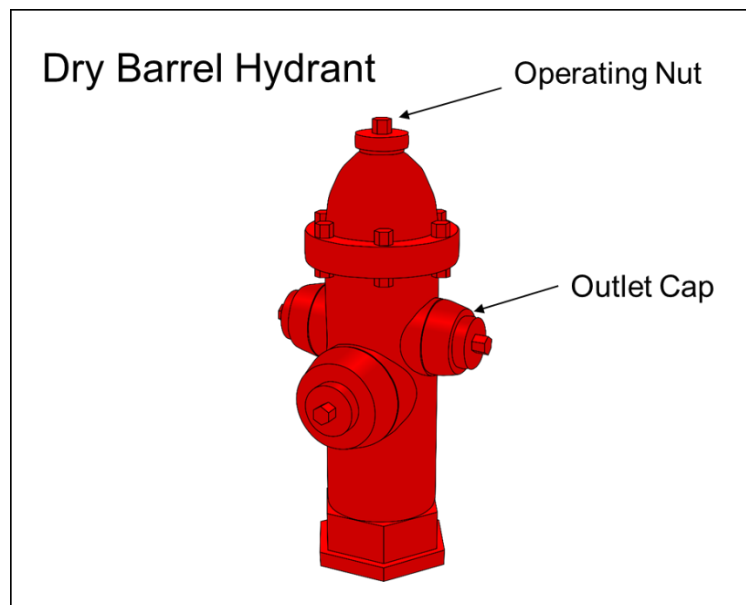
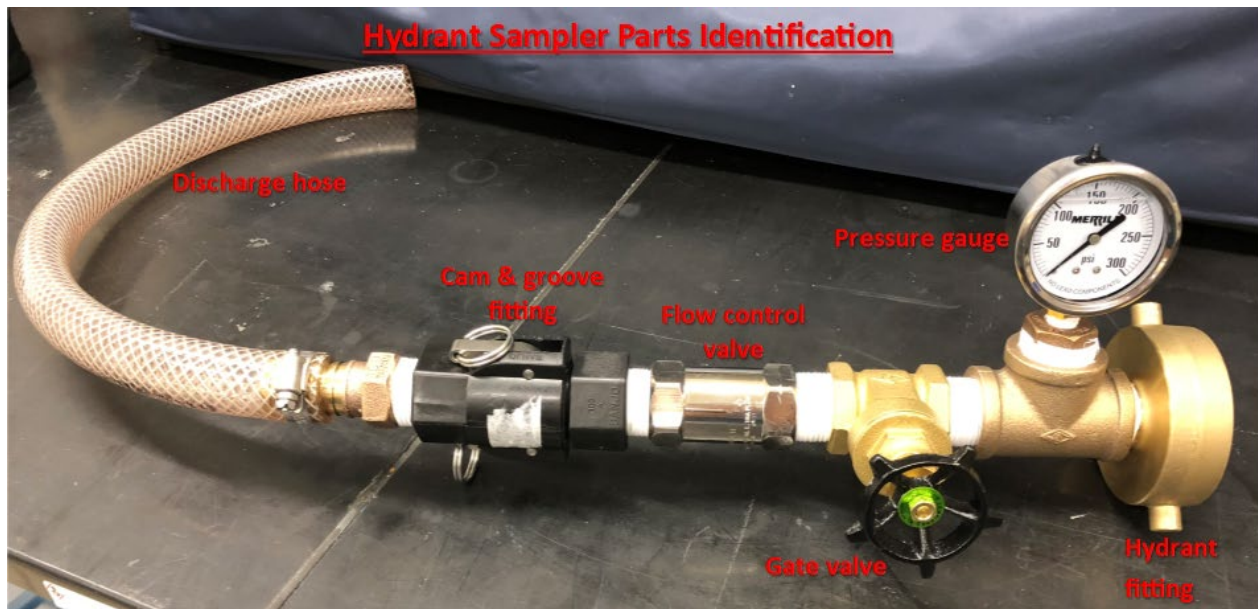
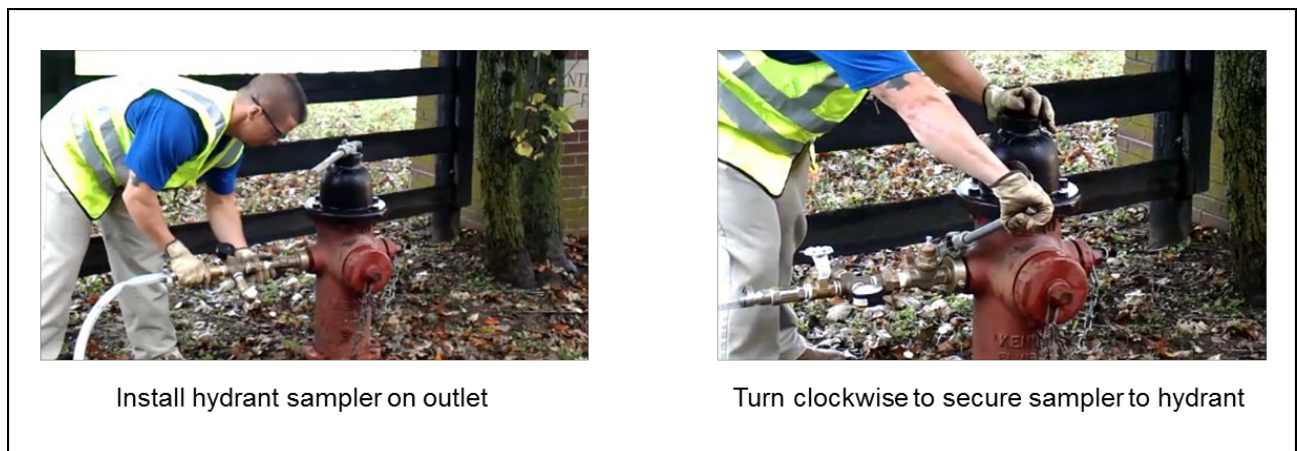

Figure 2. Dry barrel hydrant
Figure 3. Hydrant sampler parts identification, without pressure reducing valve
Figure 4. Install hydrant sampler on hydrant
3. Have the system operator remove the hydrant outlet cap (**Figure 2**) and connect the sampler to the hydrant, confirming the gate valve is closed (**See Figure 3 for identification of hydrant sampler parts and Figure 4 for hydrant sampler installation**).